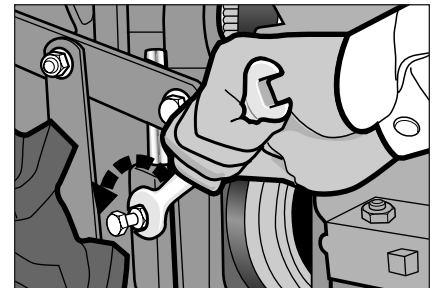

Fig. 4
5. On each side of the tiller, there is a screw (Fig. 4), with a jam nut, that holds each engine mounting bar in place. Using a 1/2" wrench, unthread each jam nut (not the screws) several turns.